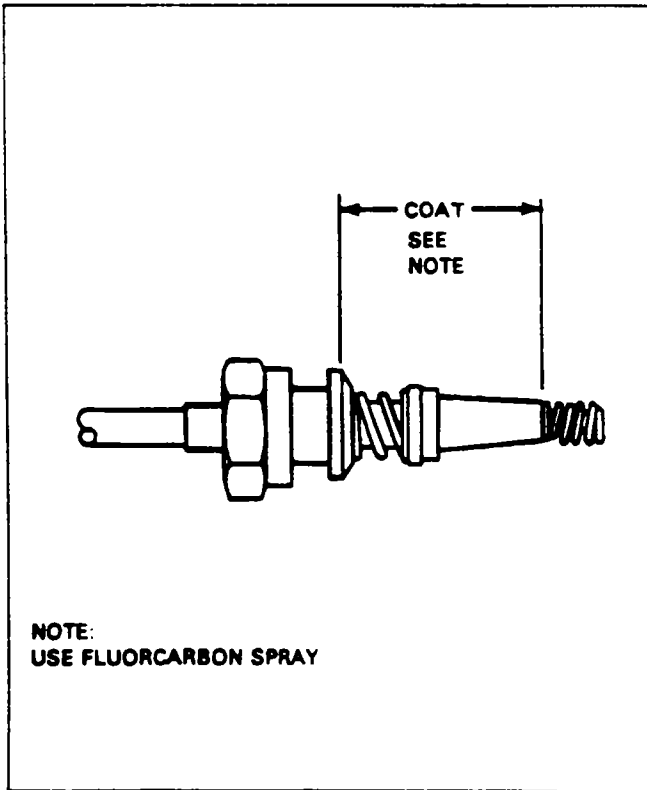
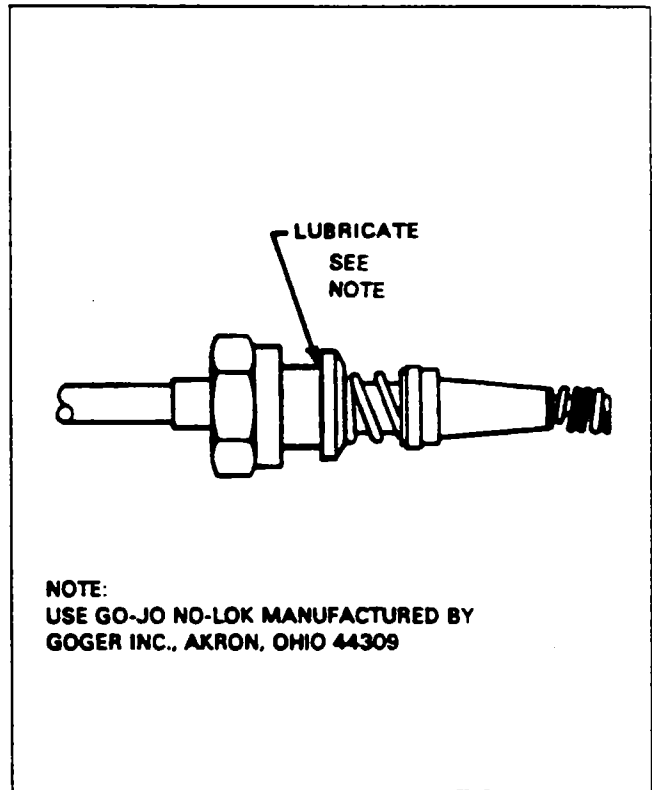

Figure 74-13. Lubricating Sleeve
Figure 74-14. Lubricating Ferrule Shoulder
9. Prior to seating spark plug lead terminal in plug barrel use fluorocarbon spray on spark plug terminal insulating sleeve. (Refer to Figure 74-13) to prevent heat from sticking sleeve to spark plug barrel. Lightly lubricate the shoulder of ferrule to minimize twisting of ferrule. (Refer to Figure 74-14.) Use GO-JO NO-LOK manufactured by Goger Inc., Akron, Ohio 44309.